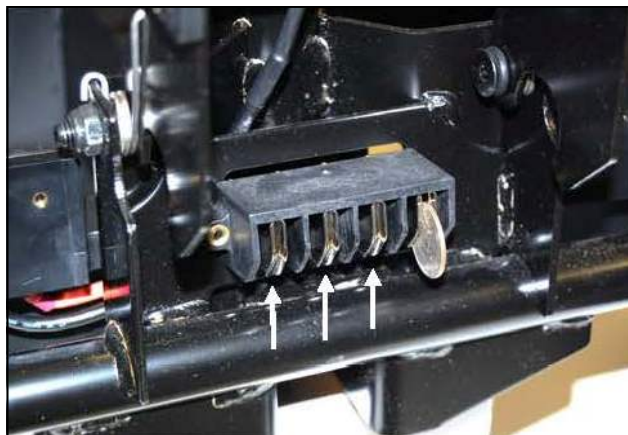

Figure 19. Quarter Test (Connector 8)
10. Take a quarter and slide into each contact on the front intermediate harness connector (8). **See figure 19.**
13. Take a quarter and slide into each contact on the front intermediate harness connector (8). **See figure 19 on page 16.**